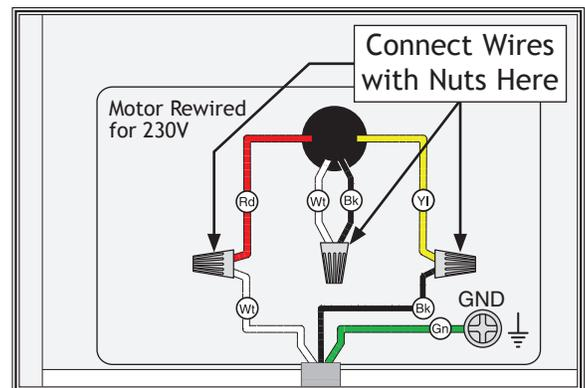

Figure 7. Motor rewired for 230V.
4. Use wire nuts to connect wires as indicated in **Figure 7**. Twist wire nuts onto their respective wires and wrap them with electrical tape to help ensure they will not come loose during operation.